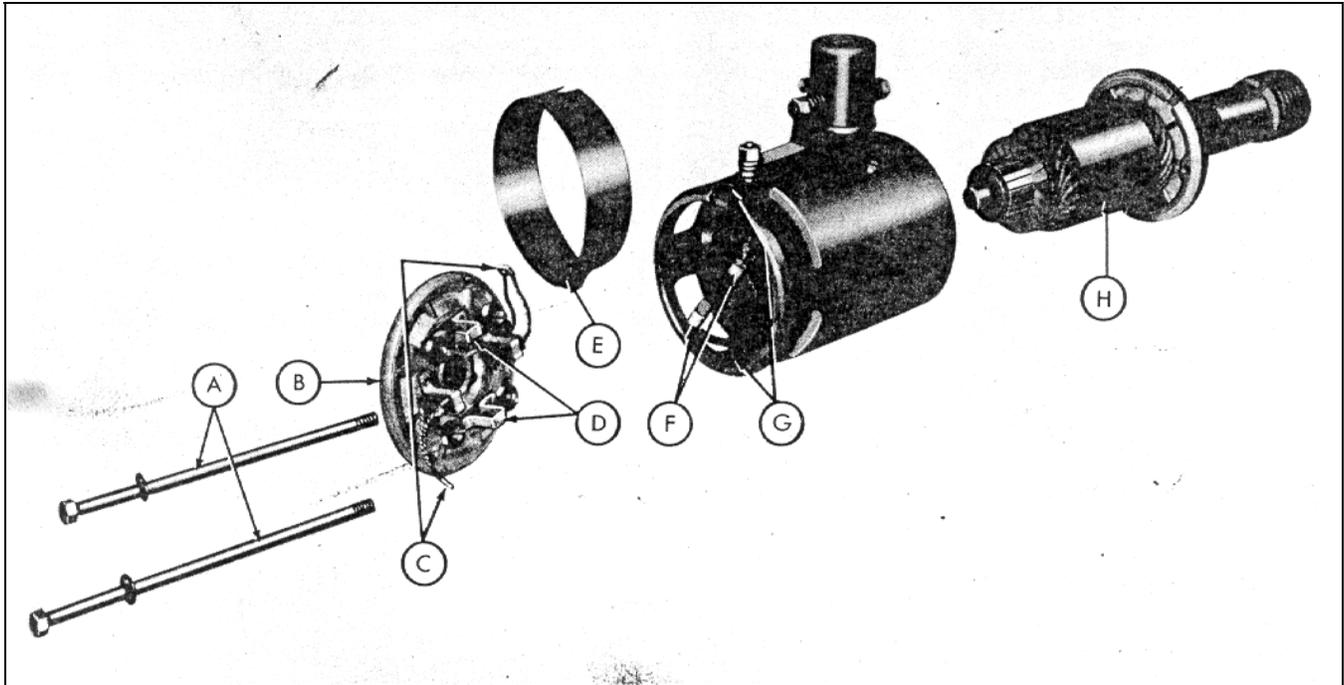

Fig. 1
- Step 1—Remove the two long bolts (A-Figure 1).
- Step 2—Remove the armature and the bendix assembly (H-Figure 1) as a unit.
- Step 3—Remove the cover band (E-Figure 1) from the starter case.
- Step 4—Remove the brush end plate assembly (B-Figure 1).
- b. Remove the two screws (G-Figure 1) that hold the ground brushes (C-Figure 1) to the starter housing.